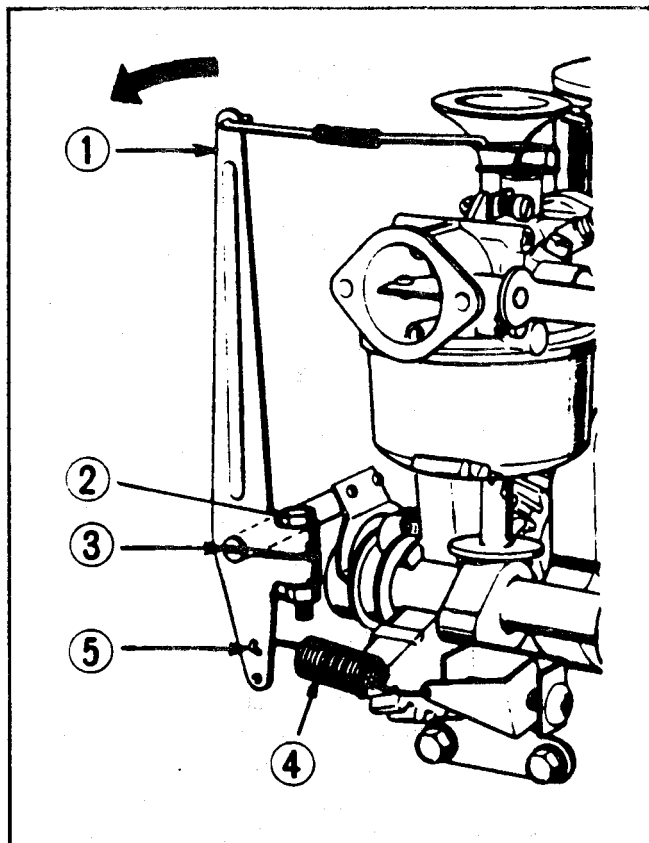

Figure 122
38. Adjust the governor by rotating the governor shaft fully counterclockwise. The end of the shaft is slotted for a screwdriver. Move the governor arm (throttle control lever) to the full throttle position (rotate it fully counterclockwise). Tighten the retaining nut on the governor arm. Make sure the throttle control spring is installed in the upper hole on the governor arm. See Figure 122.